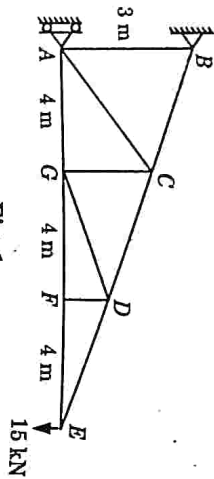

Fig. 1.
a. Determine the forces in the members by method of joints. Sec Fig. 1.
Given : Truss shown in Fig. 1.